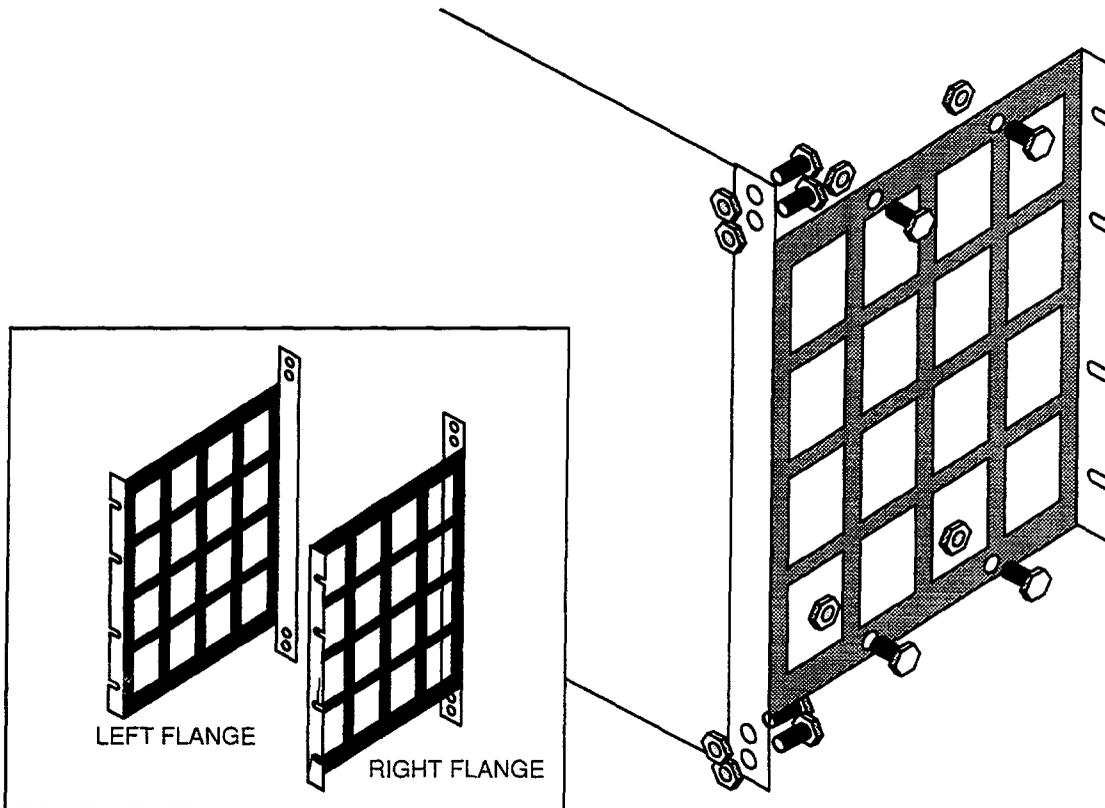

Figure 30 Attaching Rack Mounting Flange to Housing
- Step 1** At Drop 2, using #8–32 mounting hardware shown in Figure 30, replace the primary housing's two end plates with rack mounting flanges.